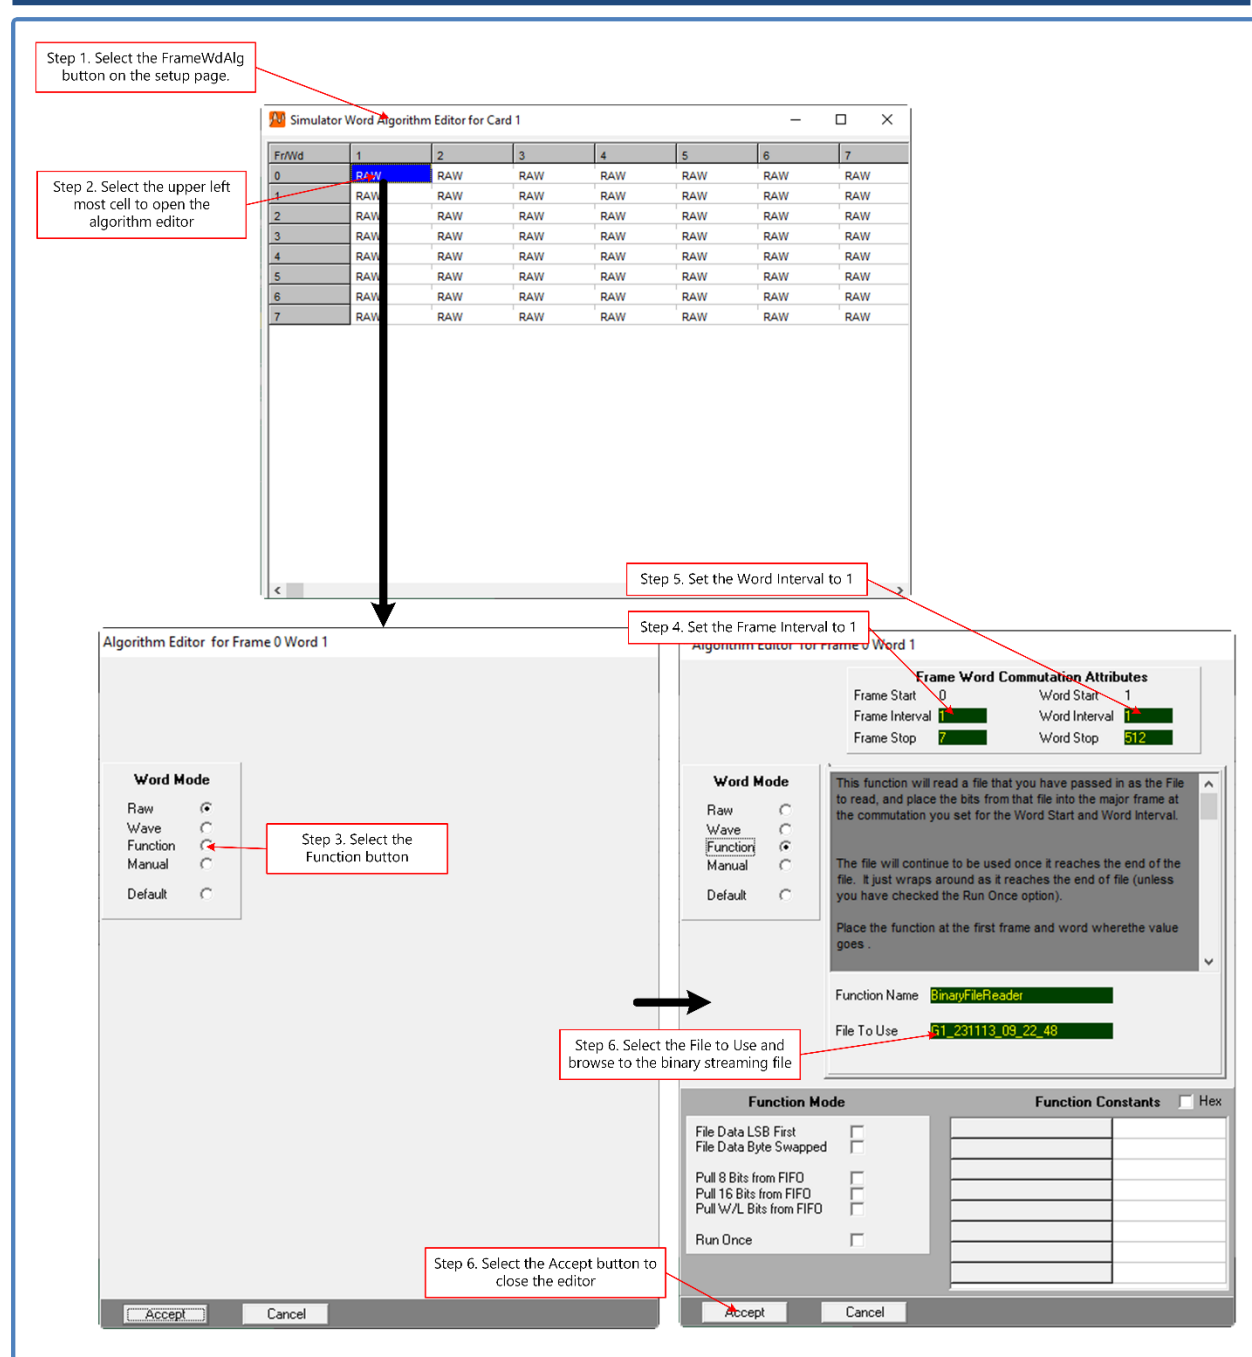

Figure 5-9 TDynaSim FrameWdAlgo Editor Steps
- 10.) Use the Frame Word Editor to setup the streaming file settings. Follow the steps in Figure 5-9 to perform the setup.